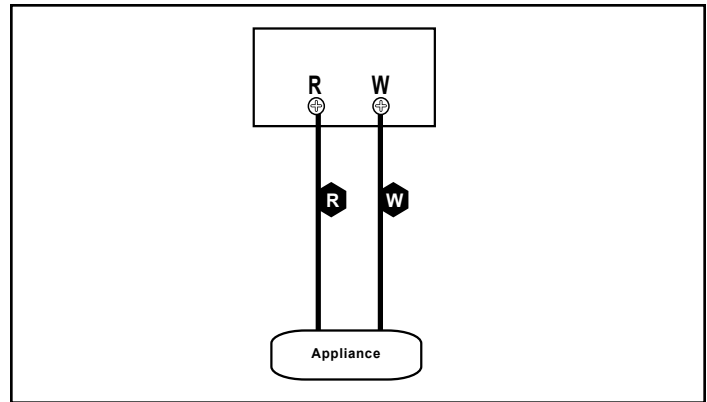

Figure 23.2
5. Connect your thermostat wire to the W and R terminals (**Figure 23.2**).